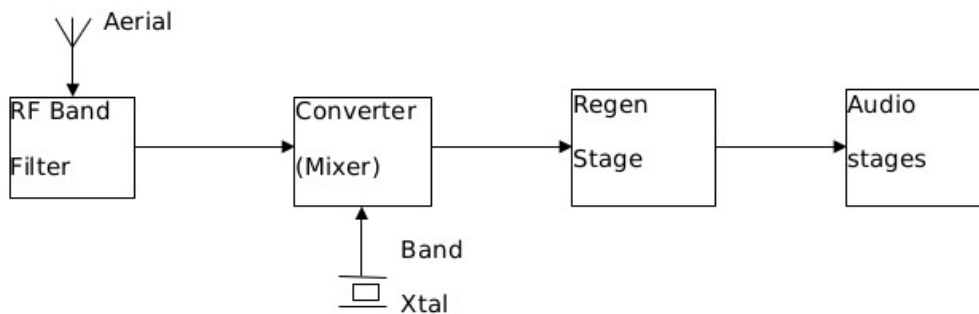

Fig 1 – RX Block Diagram
The advent of cheap and capable computer driven DDS style RF oscillators for a receiver, means that analogue multi-band RXs are a thing of the past! Consequently I am always on the look out for other interesting projects to add to my line-up. A good customer in Wales suggested I might consider a small Amplitude Modulated (AM) transceiver for 10m – hence these deliberations! It would need better selectivity than a single plain Tuned RF stage so I first considered a fairly conventional superhet; the usual IF range of up to a few MHz would mean a first tunable local oscillator probably over 20 MHz – not going to be frequency stable! Instead I considered a ‘converter’ ahead of the main tunable RX which would also provide the selectivity. This appeals because the converters could be for ‘any single band’ with different crystals driving its mixer – so allowing for the keen 40m AM fraternity. So what form should the main tunable and selective RX take? It could be a superhet but it then becomes triple conversion overall – complex and with potentially many unwanted spurs! The obvious choice is a Regen RX – simple with much gain and good stability if its frequency range is in the low MHz range. The Regen allows reception of CW or SSB as well as AM which might be an added attraction. Some might say they are fiddlesome and difficult to use – a fair criticism unless specifically addressed; so this needs a restricted tuning range, Regen stage gain control (either side of the critical point at which oscillation starts) without a change in frequency and which is very smooth. These are (normally) addressed by using a low MHz Regen stage frequency and a control pot with added presets on its ‘top’ and ‘bottom’ leads to turn it into a ‘fine’ form Regen control. A tuning offset can also be added just in case that is needed when switching to transmit, this is because the Regen oscillation needs to be quite large for that and this might lead to a small jump in frequency when it is forced to oscillate somewhat more strongly! (I happen to know that our Editor has been investigating Regens with automatic gain control, so maybe he will come up with other solutions, especially for really weak CW that appear challenging for a conventional Regen!) This project’s potential block diagram (Fig 1) looks like this:-